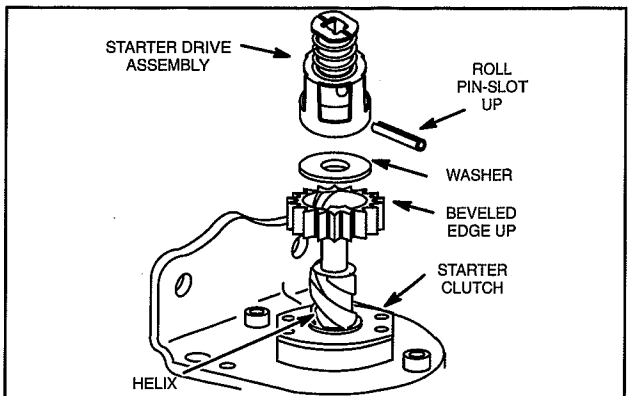

Fig. 15 – Assembling Starter Drive
1. Assemble clutch drive to starter shaft and rotate clutch until it drops into place, Fig. 15.